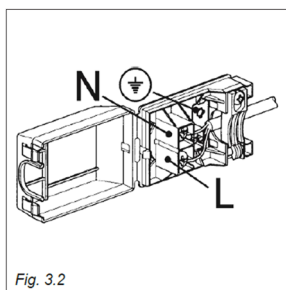

Fig. 3.2
- Unscrew the cable tie (Fig. 3.2).